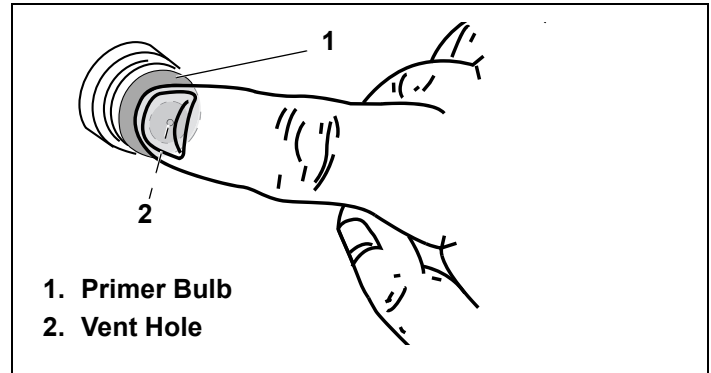

Figure 22. Pressing Primer Bulb
- When starting a cold engine, push primer bulb firmly 3 times, allowing primer bulb to return completely to original position between pushes. See Figure 22.
3. When starting a cold engine, push primer bulb firmly 3 times, allowing primer bulb to return completely to original position between pushes. See Figure 22 on page 11. Afterward, continue reading instructions below.